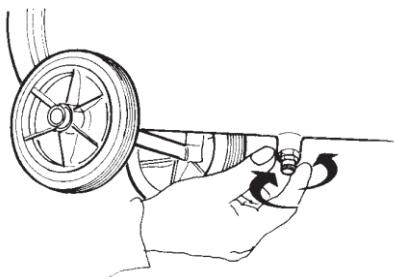

fig. 4
- Check the condensation outflow tap (**fig.4**).
- Remove the condensation outflow tap if pressure is in the tank (fig. 4).
Before carrying out any type of maintenance intervention, unplug the compressor and let the tank pressure out by opening the condensation outflow tap (fig. 4); unscrew the tap carefully and let the air out slowly as metal residues might be in the tank.
- Condensation outlet (fig. 4)
- Empty all the air in the tank (fig. 4).
- Let all the air out of the tank (fig. 4).